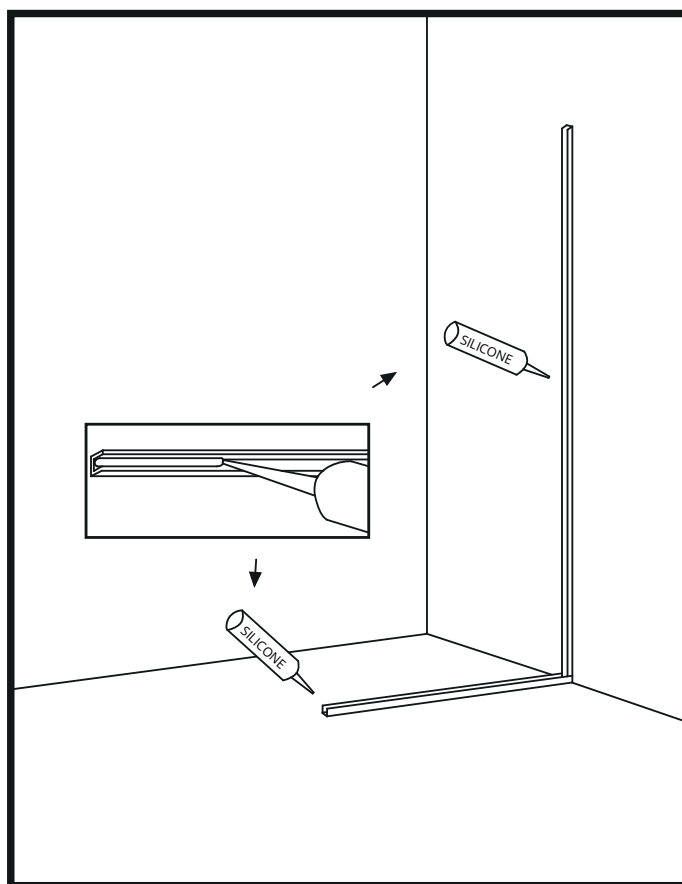

Figure 6
13. Fill the U-shaped profiles on the wall and floor with an even silicone strip. (Figure 6)